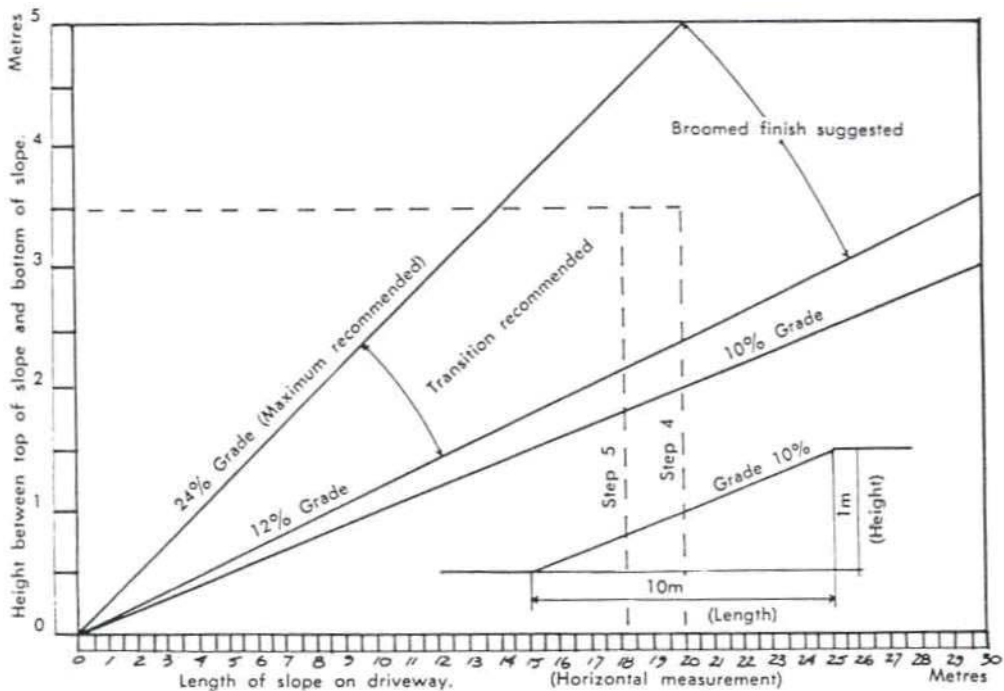
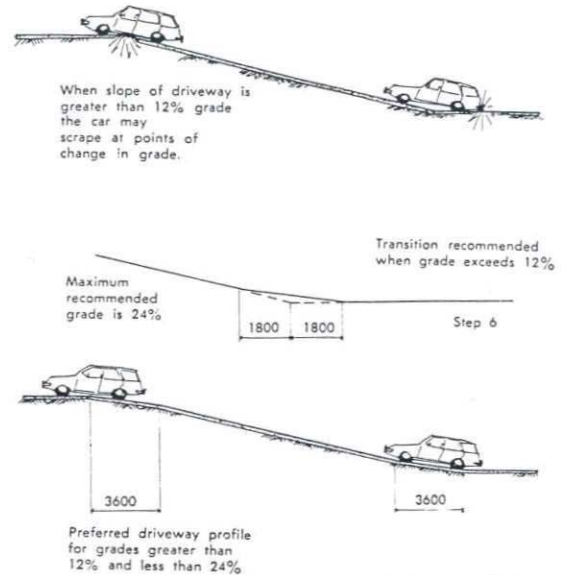

FIGURE 1: Driveway Grade
FIGURE 2: Planning your Driveway
Footpath and driveway crossover levels should be obtained from the local council, and by referring to the graph (Fig. 1) the driveway grade can be determined. When the grade is too steep, the owner will find that the car tyres will not grip; he has poor vision when backing out and the underneath parts of the car catch upon the driveway at points of sudden changes of slope. Grades in excess of 12% make the driveway difficult to negotiate. Grades between 12% and a recommended maximum of 24% need a transition as detailed (Fig. 2).
6. By measuring 1800mm back from the point of change in grade in both directions, and joining these points with a straight line, the transition slope is determined (Fig. 2).